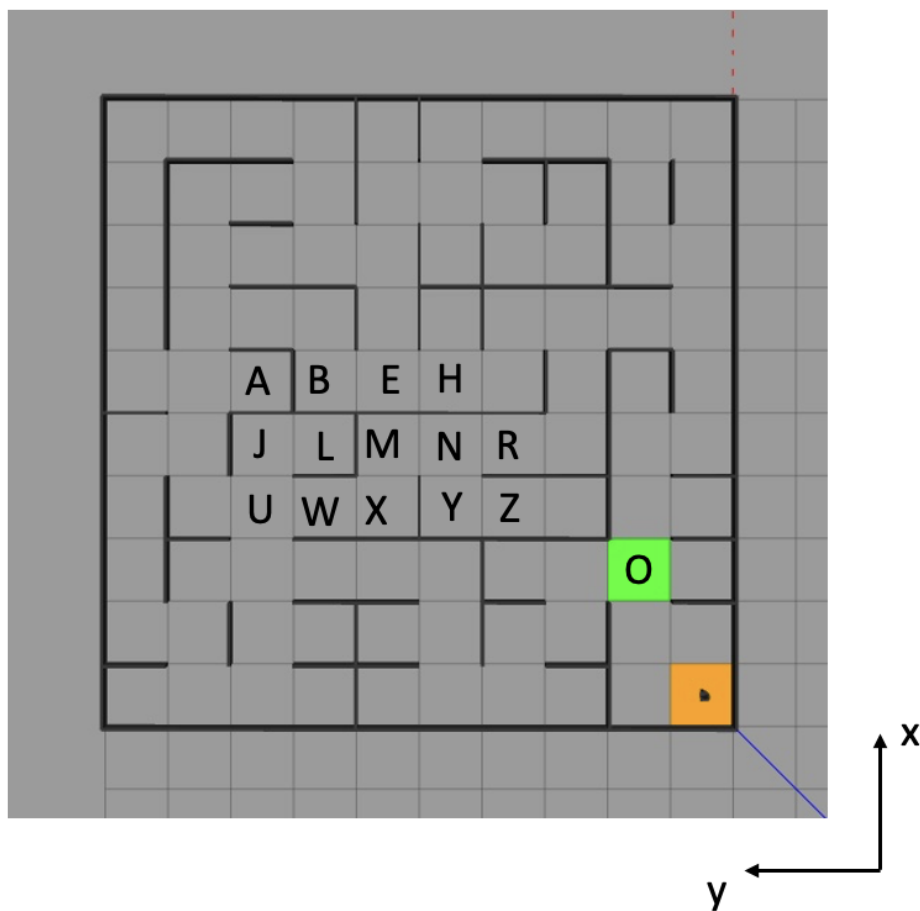

Figure 1: Assignment of destination cell
2. Students are expected to simulate Turtlebot3 moves autonomously from the initial cell to the destination cell. The destination cell is according to the last alphabet of a student's matriculation number as assigned in Figure 1.
- b) Identify (1) the path planned at the start cell, (2) the path planned at cell O (refer to Figure 1) and (3) the eventual path. Discuss why they are the same or different.